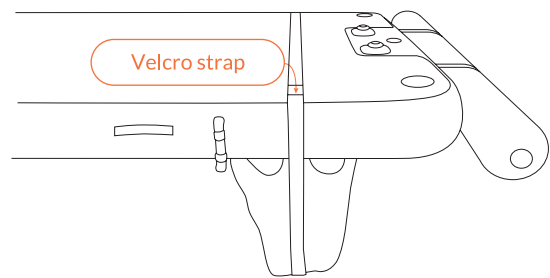

Fig 34 – Ballast Bag down to fill
2. Deploy the Ballast Bags and reattach the Velcro on the end of the strap 5cm/ 2" from the end of the Platform (Fig 34).
3. Ensure each Ballast Bag is in the down position and able to fill (Fig 34) and ensure the Velcro straps are secure.